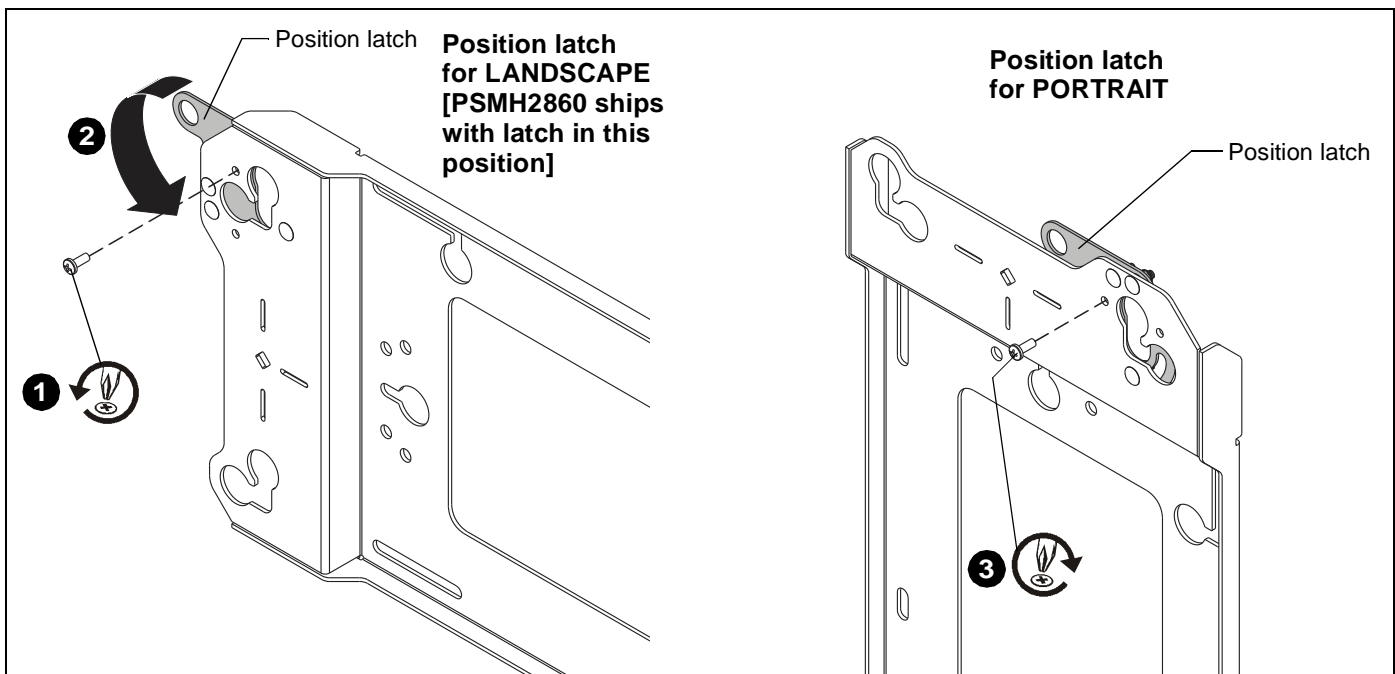

Figure 3
1. Remove and **save** Phillips head screw from landscape/portrait position latch. (See Figure 3)
2. Move position latch from **landscape** position to **portrait** position. (See Figure 3)